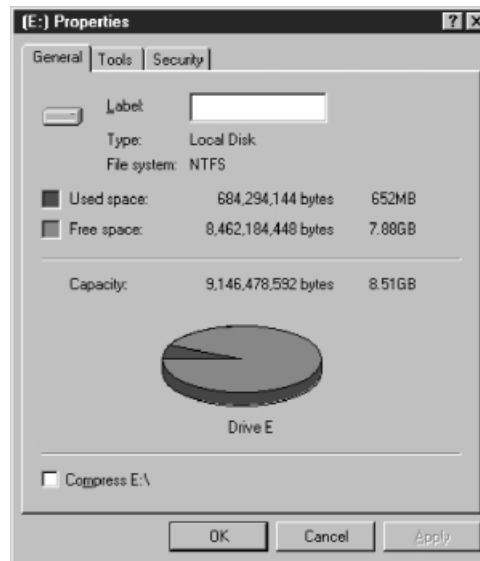

Fig. 2 Properties dialog box
2. Click [Properties] from the [Tools] menu. The dialog box in Fig. 2 is now opened.